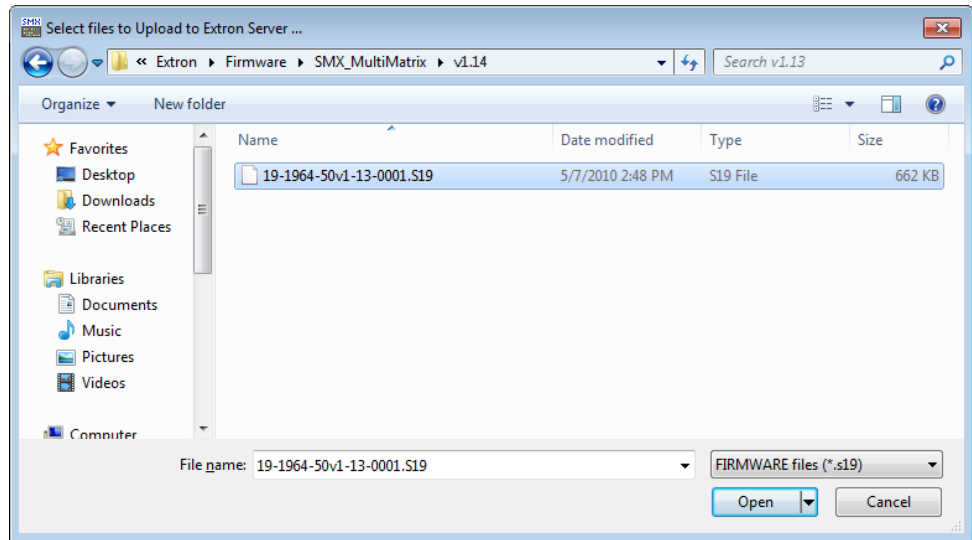

Figure 42. Select Files Window with Firmware File Selected
3. From the Tools menu, select **Update Firmware...** The Select Files window opens (see figure 42).